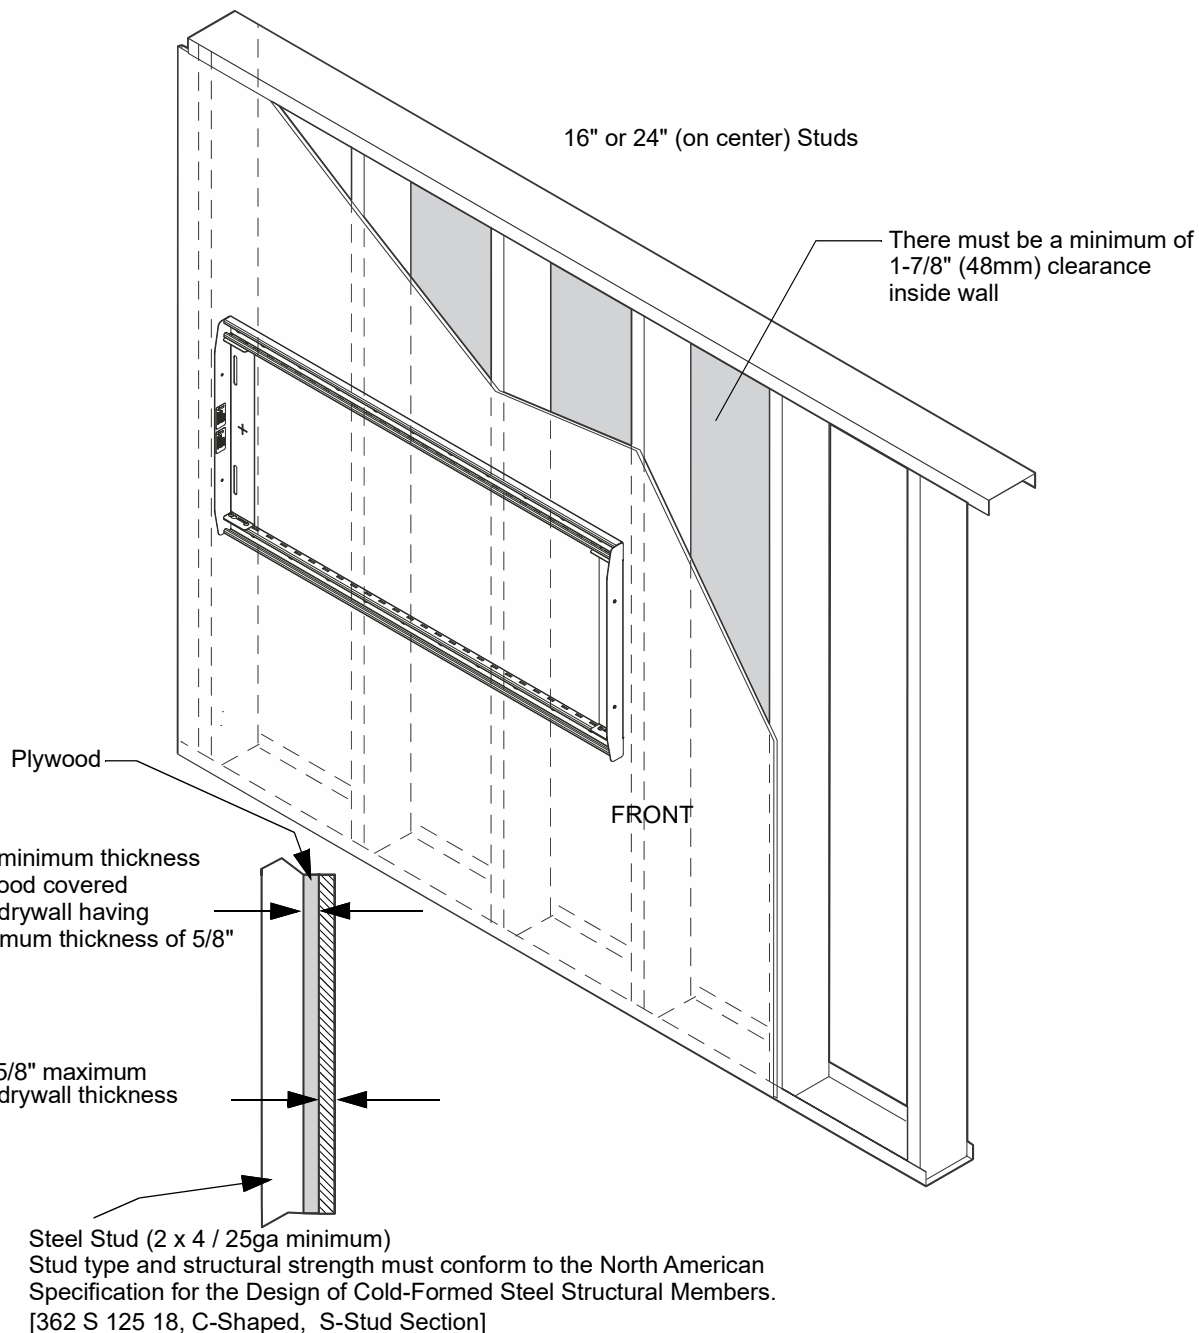
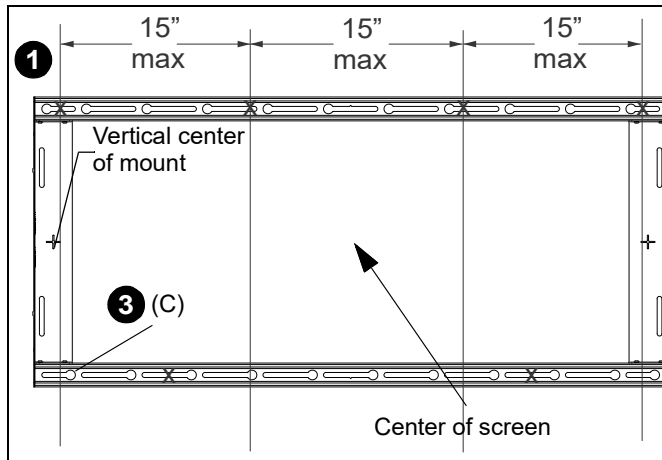

Figure 18
Figure 19
2. Using a level, mark the wall at four upper mounting hole locations at least 15" apart from each other. Mark two lower holes at locations shown in Figure 18. (See Figure 19)